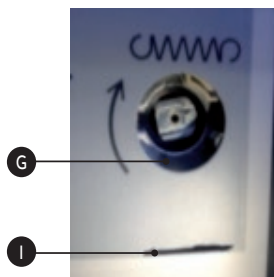
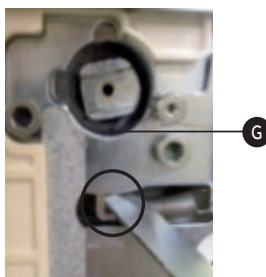
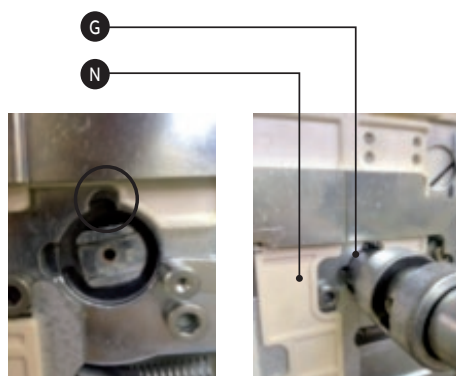
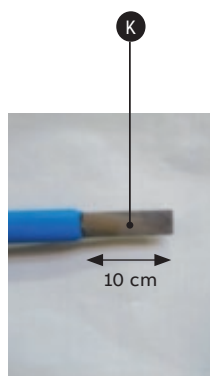

Figure 39.
Figure 40.
Figure 41.
Figure 43.
- Fit tool K or similar (fig. 43) into window I (fig. 39). Lever up the stud (fig. 40) to release the seat where the operating lever is inserted (fig. 41).